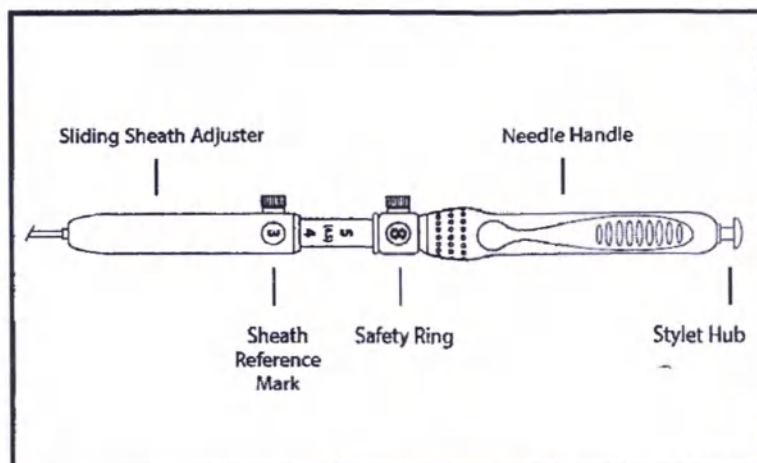

Fig. 1
5. Adjust the sheath to the desired position, ensuring that it is visible on the endoscopic image, emerging from the working channel of the scope. To adjust length, loosen the thumbscrew lock on the sliding sheath adjuster and slide until the preferred length is attained. **Note:** The reference mark for the sheath length will appear in the sliding sheath adjuster window (Fig. 1). Tighten the thumbscrew on the sliding sheath adjuster to maintain the preferred sheath length.